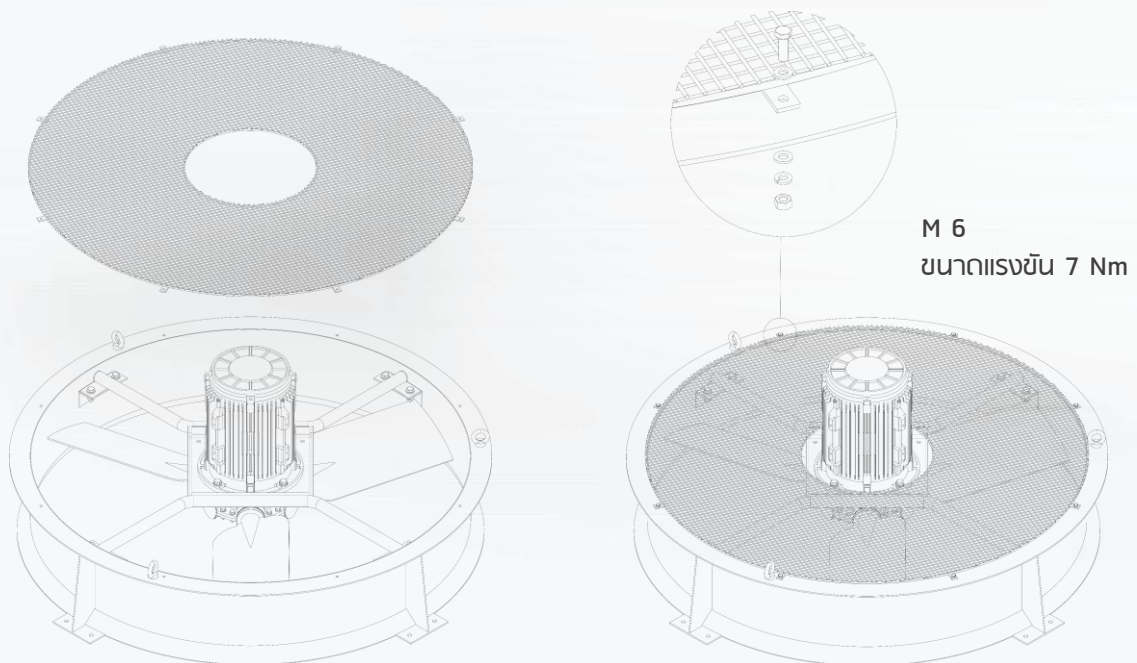

Figure 4 Attach Fan Guard to Chimney
2. Assemble the fan guard to the chimney, as shown in Figure 4.